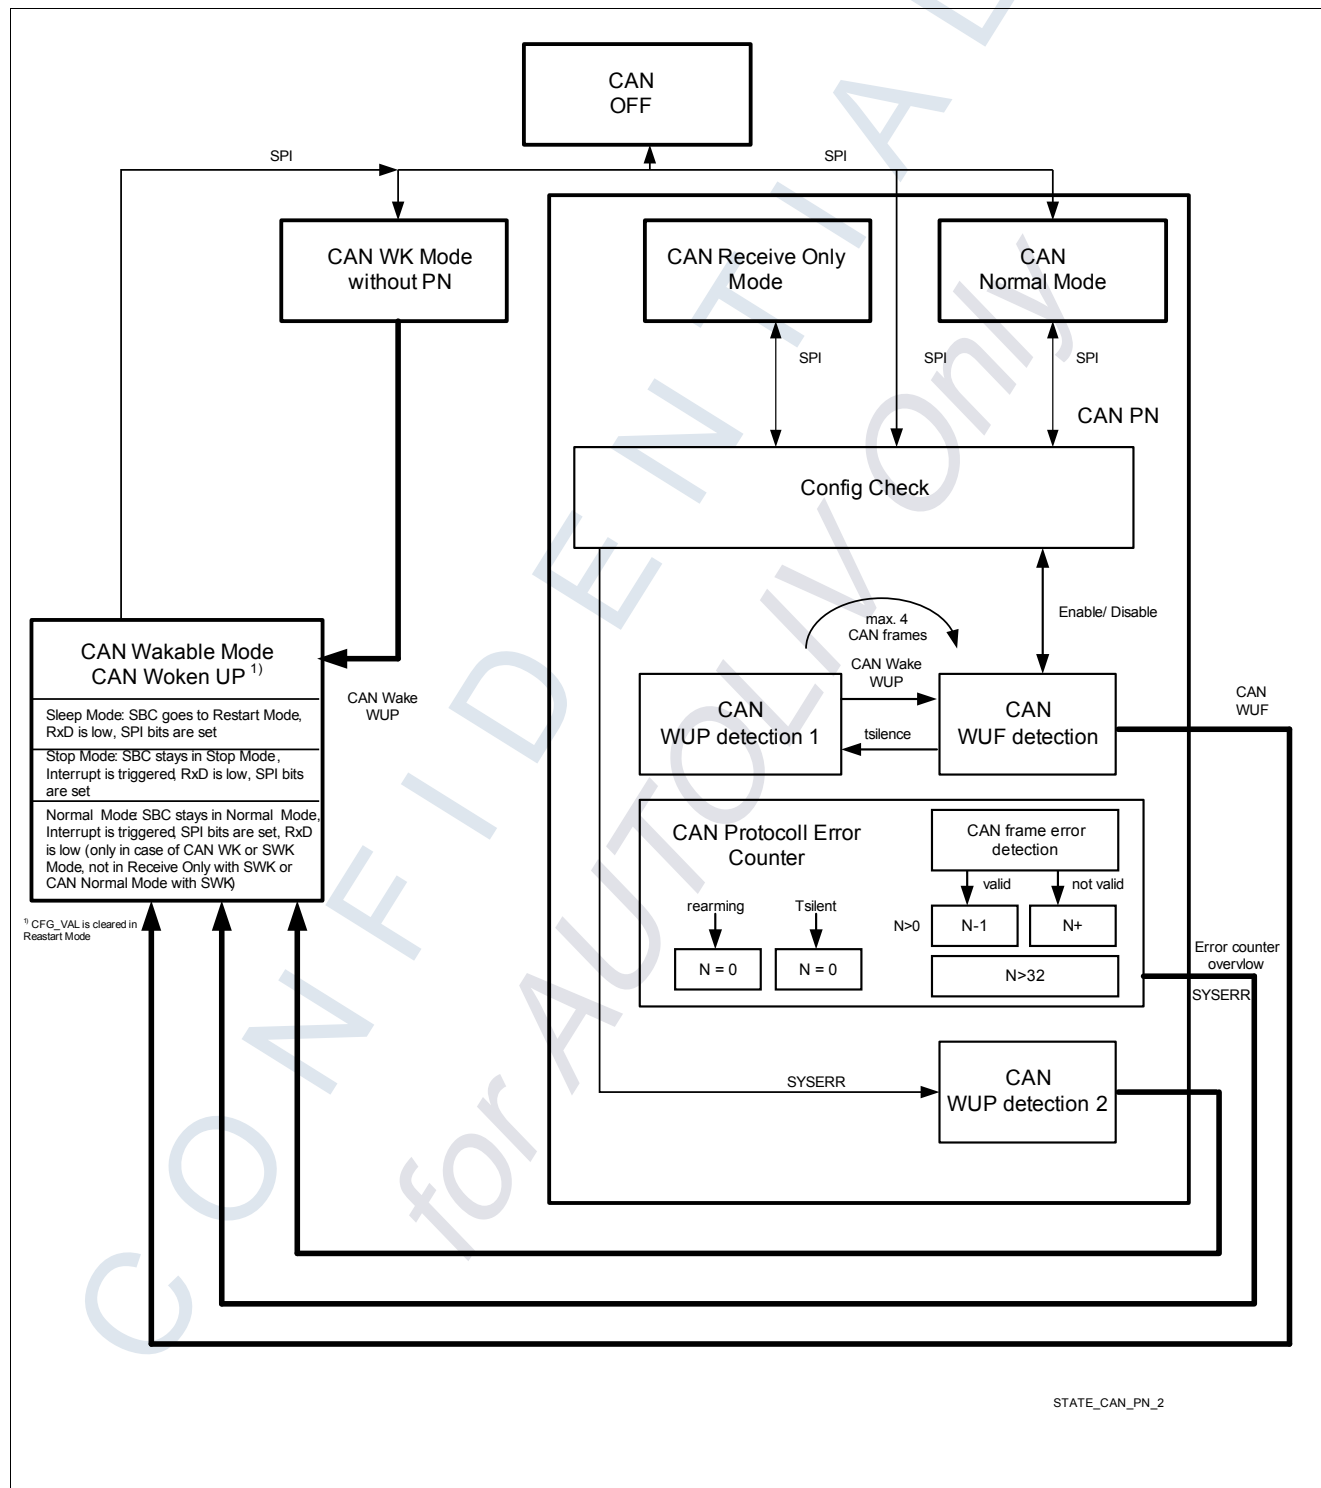

Figure 15 CAN Selective Wake State Diagram
*Note: It is possible that WUF and WUP bit are set at the same time if a WUF causes a wake out of SWK, by setting the interrupt or by restart out of SBC Sleep Mode. The reason is because the CAN has been in WUP detection 1 state during the time of SWK mode (because of t_{SILENCE}). See also **Figure 15**.*
The SWK_SET bit is set to signalize the following states (see also **Figure 15**):